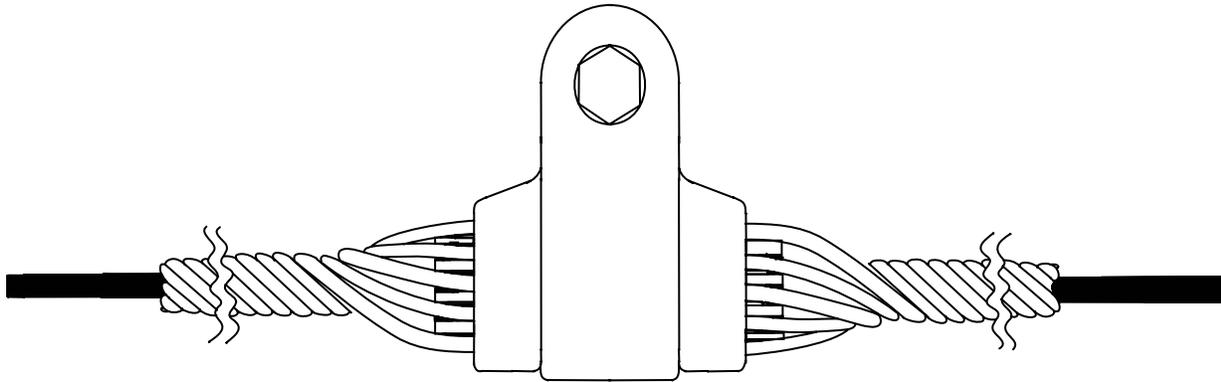

Figure 3 – Single Layer Heliformed Suspension Unit
3.1 The single layer heliformed suspension unit is used to attach ADSS cable to intermediate poles or tower structures along the cable route. The single layer suspension unit is intended for use in spans up to 800 ft where the turn angle does not exceed 30°. The suspension unit consists of suspension rods, suspension housing, suspension strap, and cable insert (Figure 3). The following instructions describe installation of the heliformed suspension unit.